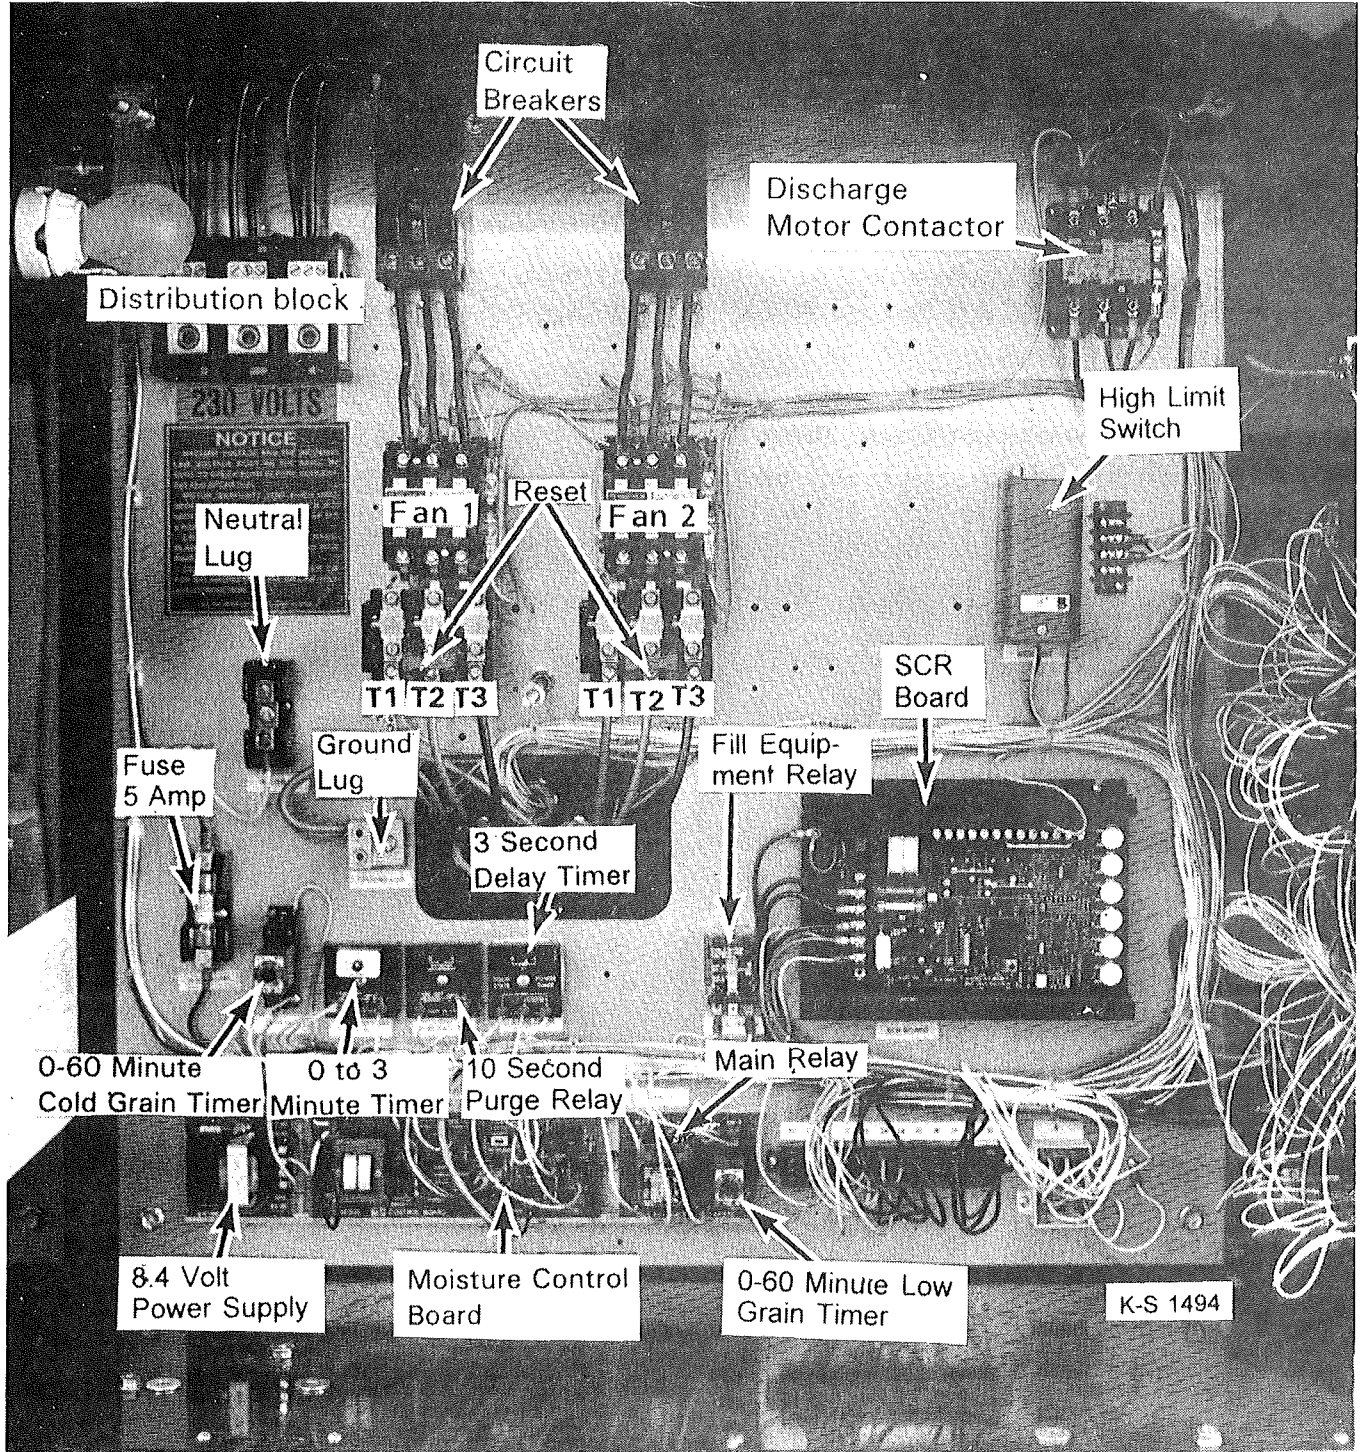

Figure 13
2. Connect the power source to the lugs on the power distribution block. See Figure 13.
**IMPORTANT:** The dryer controls operate on 60 cycle single phase 115V power. Dryers that operate on 230V three phase power must have the 230V supply wire connected to the center lug of the distribution block as shown in Figure 13. If the 230V power supply is connected to a 115V lug and the 115V wire that supplies power to the dryer controls is connected to this lug by mistake, the dryer controls will be damaged by the 230 high voltage power. For this reason, the 115V power supply wire to the dryer control panel is not connected to the distribution block at the factory. There is a loose black wire close to the distribution block with an orange tag attached that reads "115VOLTS." Dryers that will be operated on 460V power will have a step-down transformer
**Three phase motors** - Move the wire from terminal T1 to T3 and T3 to T1 on the fan magnetic starter in the control cabinet. See Figure 13.